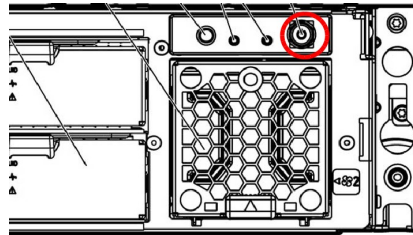

Figure 85: Rear-right view of disk cabinet, with power button marked in red.
Power-off the disk cabinet by using the power button on the rear, see figure 85.
- ❑ Power-on the disk cabinet by using the power button on the rear, see figure 85.